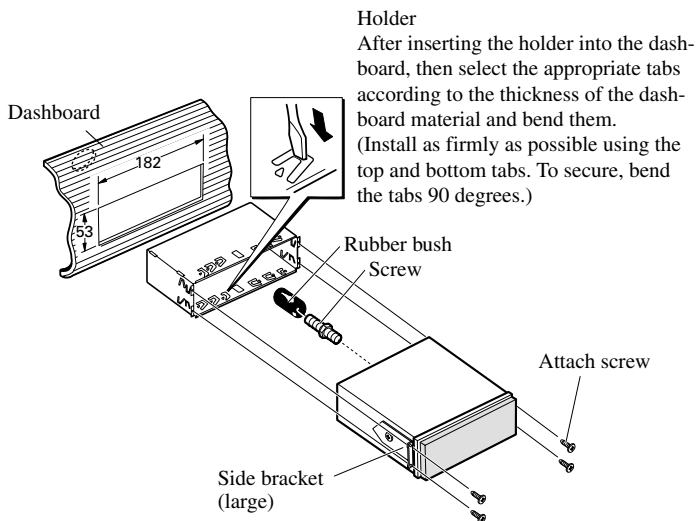

Fig. 10
3. Fastening the unit. (Fig. 10)